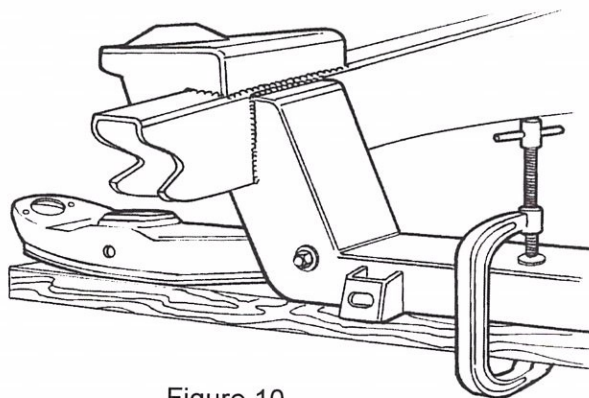

Figure 10
11. If you are using factory lower control arms and strut rods you will continue here. Use the lower control arm and strut rod for locating the rear strut rod supports and gussets. Using a 2 x 4 and a C-clamp, install the control arm as shown in Figure 10.